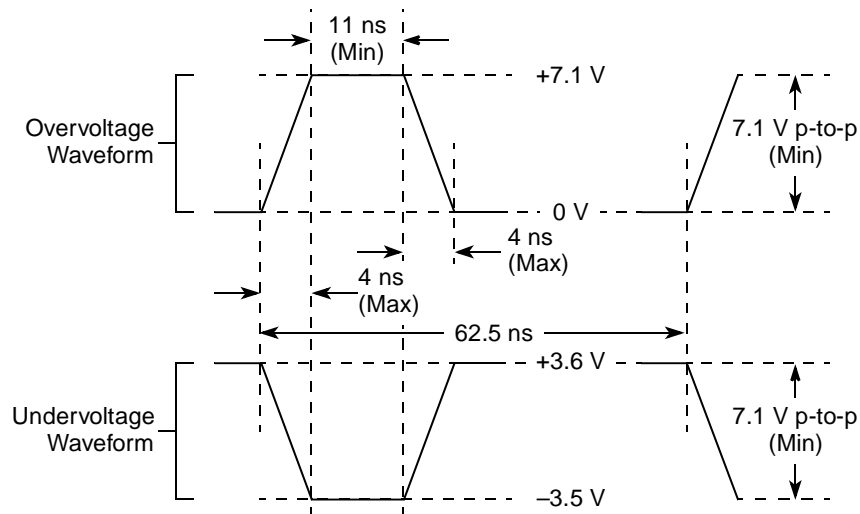

Figure 3. Maximum AC Waveforms on PCI Interface for 3.3-V Signaling
- ⁶ OV_{IN} on the PCI interface can overshoot/undershoot according to the PCI Electrical Specification for 3.3-V operation, as shown in Figure 3.
Figure 3 shows the overshoot and undershoot voltage of the PCI interface of the MPC8349EA for the 3.3-V signals, respectively.